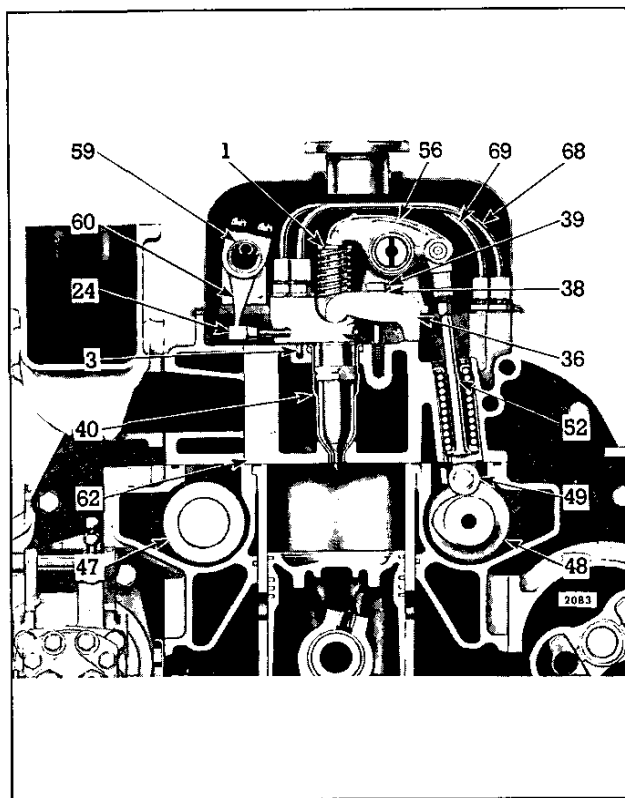

Fig. 6 - Fuel Injector Mounting
The motion of the injector rocker arm is transmitted to the plunger by the follower which bears against the follower spring (Fig. 6). In addition to the reciprocating motion, the plunger can be rotated around its axis by the gear which meshes with the control rack. To accomplish fuel metering an upper helix and a lower helix are machined in the lower part of the plunger. The helix relationship to the ports changes with the rotation of the plunger.
2. Remove the fuel pipes from both the injector and the fuel connectors (Fig. 6).